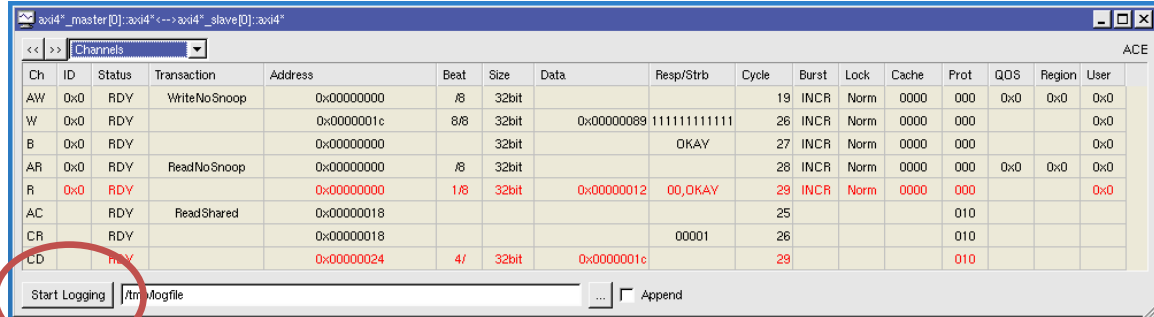

Figure 6-7 Start Logging button in the Monitor dialog, Channels view
1. In the Monitor dialog, with Channels selected in the pulldown menu, click the “Start Logging” button (circled in Figure 6-7).